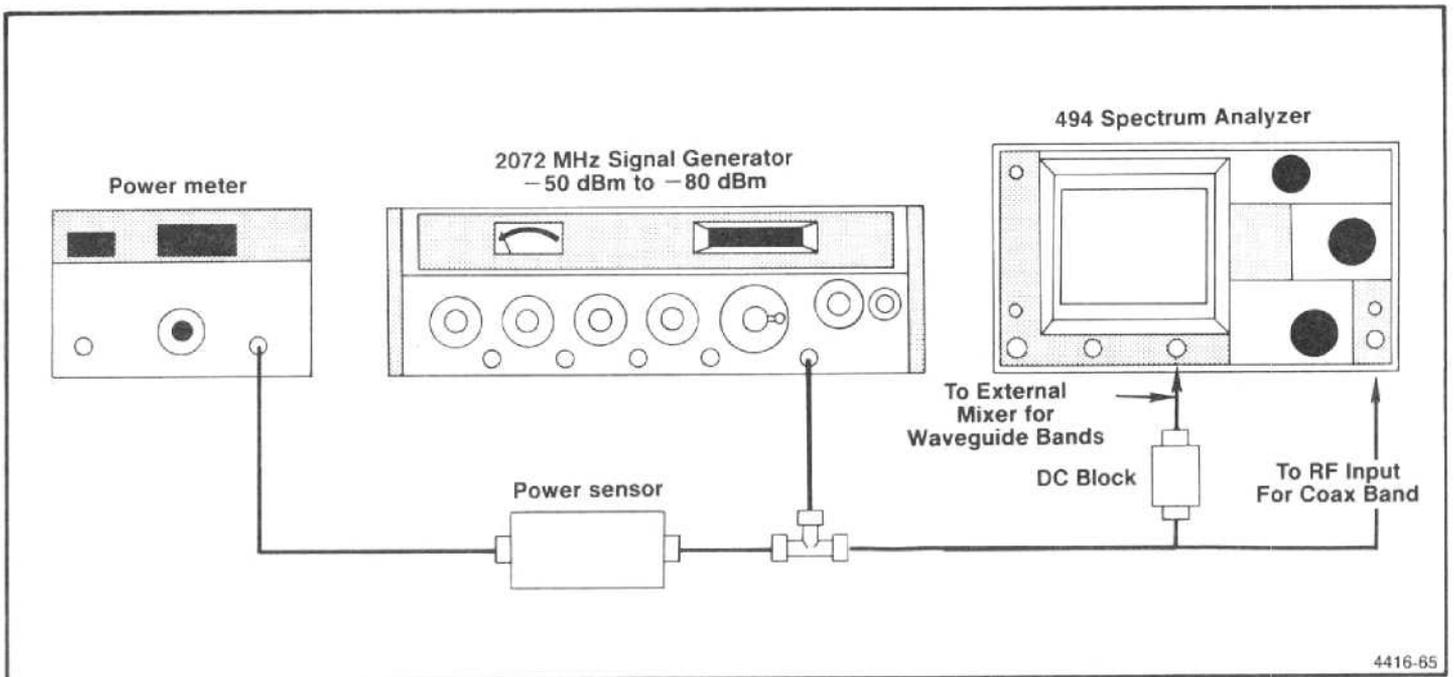

Figure 5-31. Test equipment setup for adjusting band leveling for the coaxial and waveguide bands.
c. Test equipment setup is shown in Figure 5-31. Set the FREQUENCY RANGE to 1.7-5.5 (band 2), FREQ SPAN/DIV to 10 MHz, REF LEVEL to -20 dBm, and activate AUTO RESOLN, 2 dB/DIV, VIEW A and VIEW B.
a. Test equipment setup is shown in Figure 5-31. Apply 2072 MHz at -30 dBm, through a dc-blocking capacitor to the EXT MIXER input. Monitor the input with a power meter to set the power level then add a known 30 dB attenuator so the input level to the EXTERNAL MIXER port is -60 dBm. Set the FREQUENCY RANGE to 18-26 GHz (band 6), FREQ SPAN/DIV to 200 MHz, REF LEVEL to -30 dBm, and activate AUTO RESOLN.